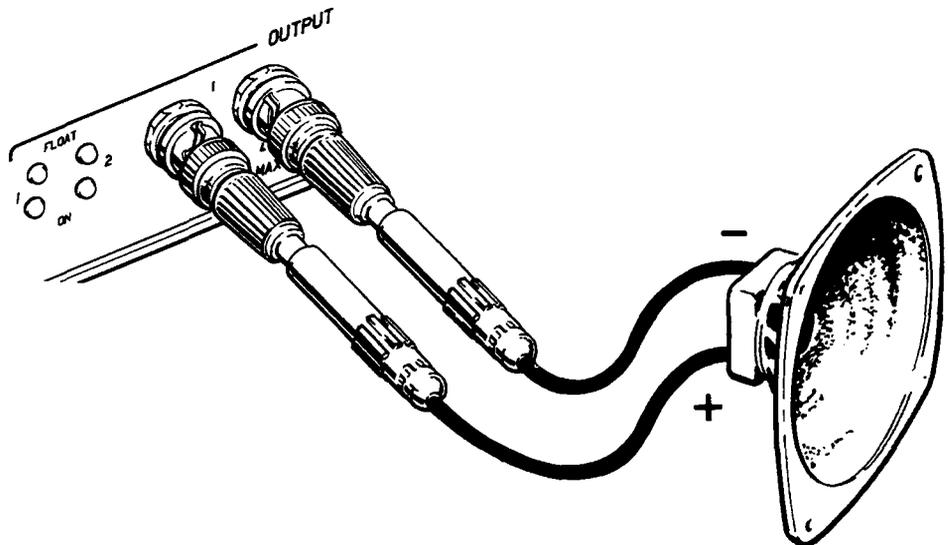

Figure 3-6. Connection Diagram for Connecting an External Speaker to Output 1.
15. Press any one of the DATA keys (0 through 9, A through D, or \* or #) to output the corresponding DTMF signal for 44 ms at 2 Vpk. If you wish to hear the DTMF signals, Figure 3-6 shows a connection diagram for connecting an external speaker to Output 1.